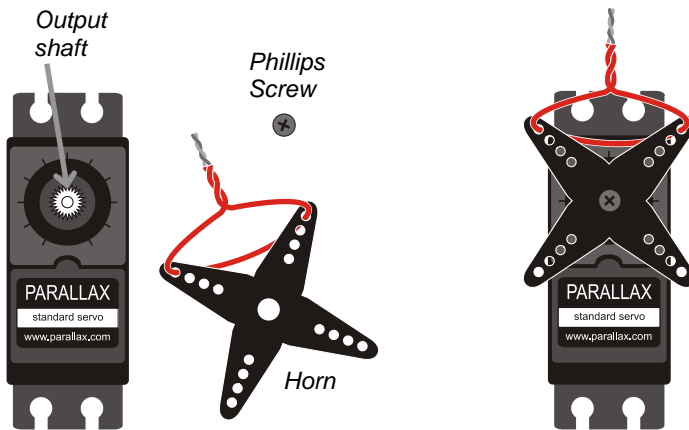

Figure 4-15
Next, adjust your servo's horn so that it makes the jumper wire twist-tie point straight up when `Servo-Center.c` is running, like it does in the right side of Figure 4-15. This mechanical adjustment will simplify tracking the servo's angles because each angle will resemble the ones in Figure 4-12 on page 111.
- Remove the screw that attaches the servo's horn to its output shaft, and then gently pull the horn away from the case to free it. Your parts should resemble the left side of Figure 4-15.
- Slip the horn back onto the servo's output shaft so that it makes the twist-tied wire point straight up like it does on the right side of Figure 4-15.